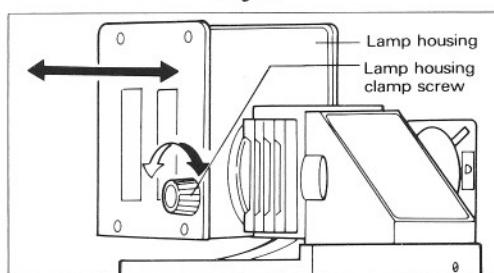

Fig. 27
Releasing the lamp housing clamp screw, move the housing back and forth to have the lamp filament image focused on the phase-contrast ring. (Fig. 27)
- 6) Releasing the lamp housing clamp screw, move the housing back and forth to have the lamp filament image focused on the phase-contrast ring. (Fig. 27)